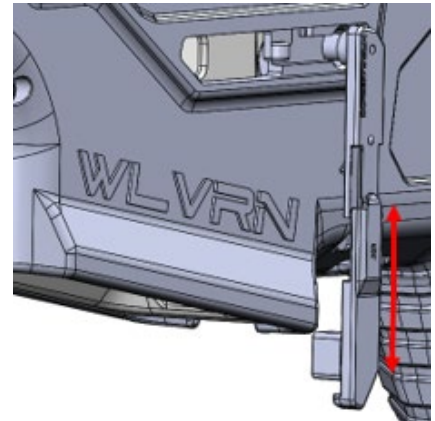

Figure 41: Changing Conversion Bar
2. Rotate the magazine catch down. (Figure 41)
3. Using a small flat tool, tap the back of the magazine conversion bar until it slides off. (Figure 41)